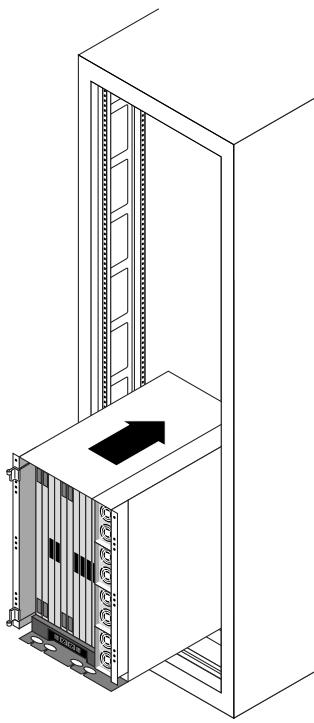

FIGURE 4-12 Installing the Director in the Cabinet
5. Push the director to slide it all the way into the cabinet. See FIGURE 4-12.